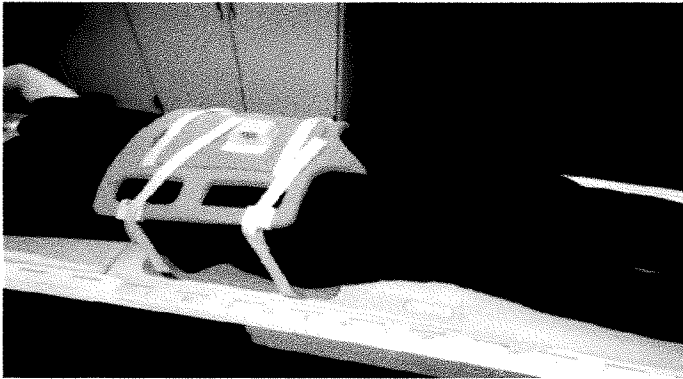

Figure 4: Supine. Head-first patient ready to scan. Bore is to the left.
- 1) Lay the PROCURE™ coil out flat with the non-patient side down and the anterior end facing the bore (left in Figure 4) Use pillows and patient comfort pads as needed for patient comfort and positioning.
- 2) After positioning the coil as shown in Figure 4, connect the anterior cable connector to the anterior coil receptacle. Move the coil so that the cable can connect to the corresponding connector port on the MRI scanner, **DO NOT PLUG THE CABLE INTO THE SCANNER.**